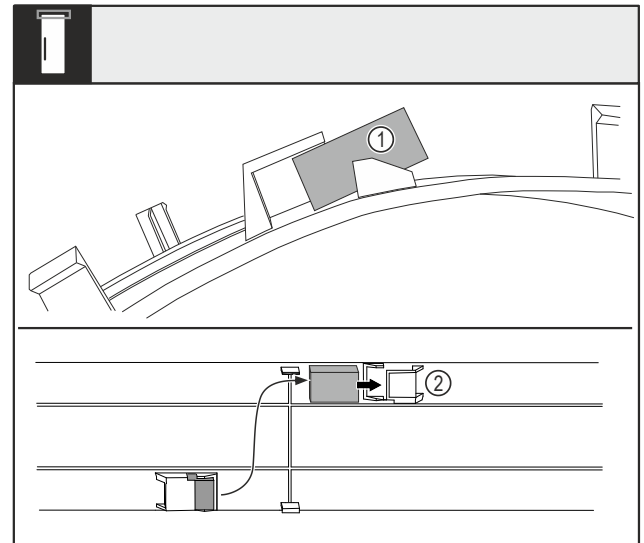

Fig. 14
- Bend the cover and pull the door magnet Fig. 14 (1) out of the harness.
- Push the door magnet into the other harness Fig. 14 (2).